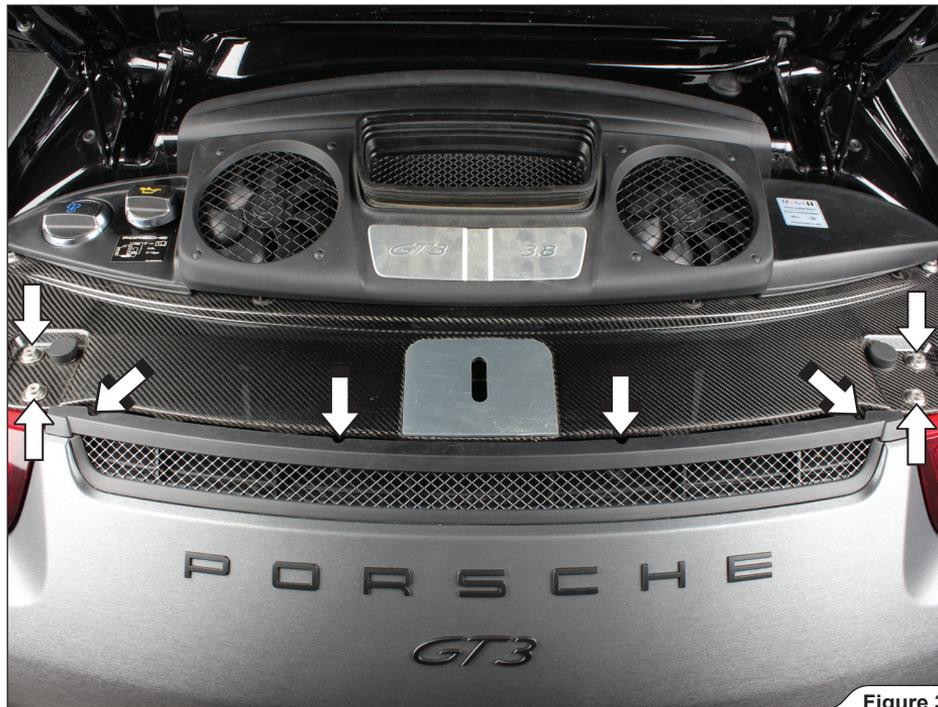

Figure 3
3. Unscrew the marked bolts (**Figure 3**).